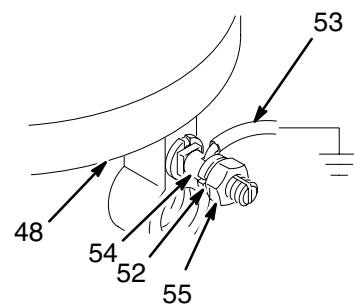

Fig. 13
- a. Loosen the grounding lug locknut (55) and washer (52). Insert one end the ground wire (53) into the slot in the lug (54) and tighten the locknut securely. See Fig. 13.